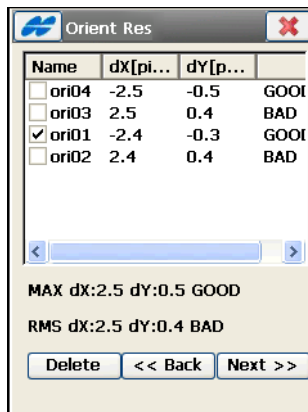

Figure 8-66. Delete Orientation Points
- To delete the selected orientation points, select the points and tap the **Delete**  button on the ***Orientation Res*** screen (Figure 8-66).